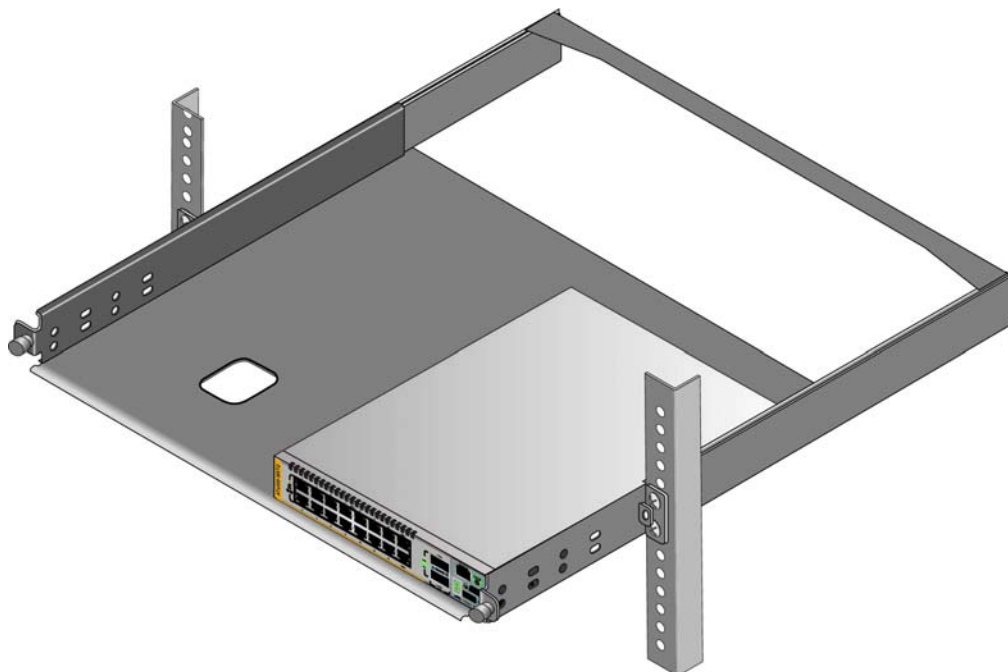

Figure 32. Placing a Switch in the AT-RKMT-J15 Bracket
7. Place the switch in the left or right side of the bracket, with its front panel facing the front of the bracket. If you are installing only one switch, you can install it on either the left or right side. Refer to Figure 32 on page 71.